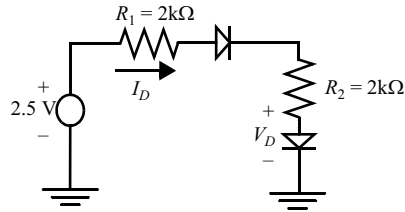

Figure 0.1 Resistor diode circuit.
- a. Consider the circuit of Figure 0.1. Using the simple model, with $V_{Don} = 0.7\text{ V}$, solve for I_D .